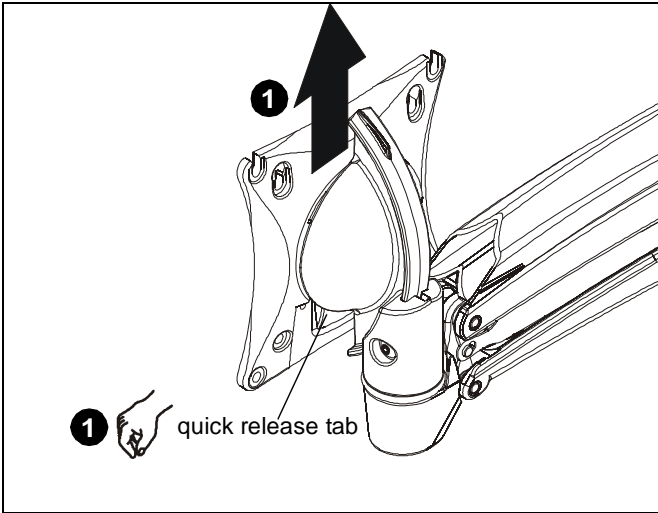

Figure 1
1. Remove quick release faceplate from Kontour mount by pressing quick release tab and sliding faceplate off mount. (See Figure 1)